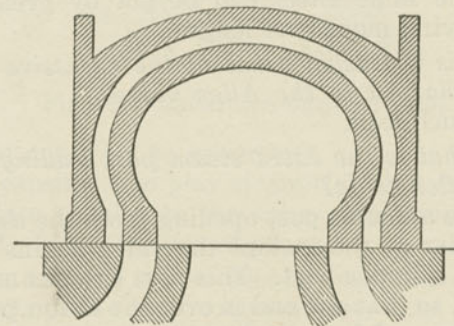

Fig. 154. Allen or Trick Valve.
*A. By providing supplementary ports and passages, as shown in what is known as the Allen or Trick valve, seen in Fig. 154. There is a step or shoulder on the valve-face, and a passage through the valve itself in such fashion that as the outside edge of the valve at either end commences to uncover the steam port at that end, the supplementary passage commences to receive steam at the other, and passes it over to be discharged into the*